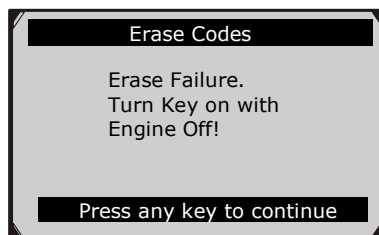

Figure 6.9
- If the codes are not cleared, an “Erase Failure. Turn Key on with Engine off!” message appears. (Figure 6.9)